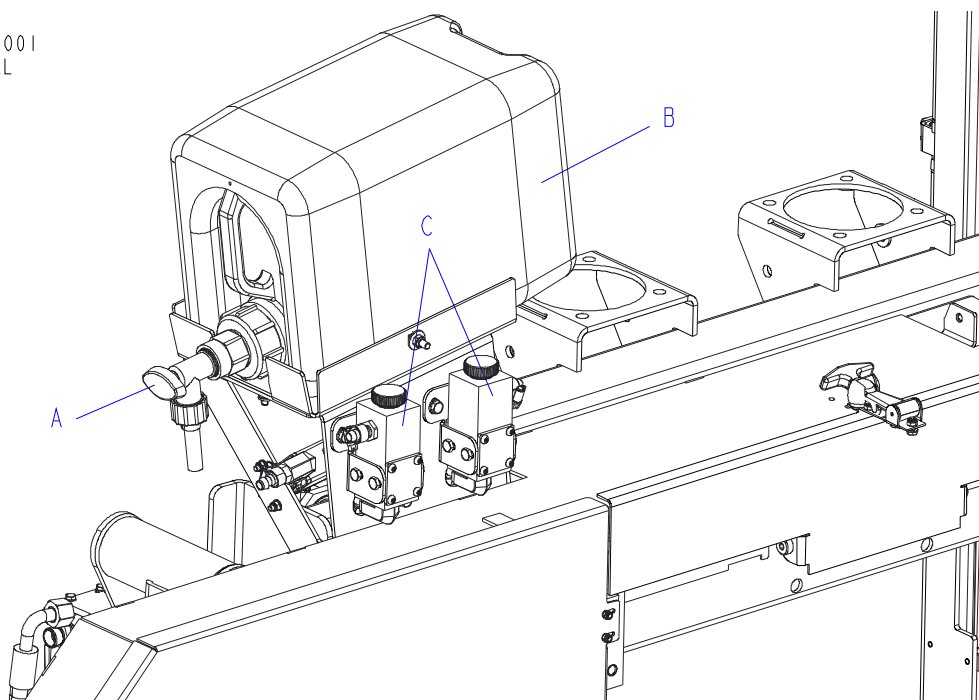

FIG. 4-1
See Figure 4-1. The Lube System keeps the blade and the wheels clean and cools them. When shut-off valve (A) is open, the coolant (ACP-1 oil) flows from the tank (B) through hoses to surfaces of the wheels. Oil dispensers (C) located on the saw head control the amount of oil flow.